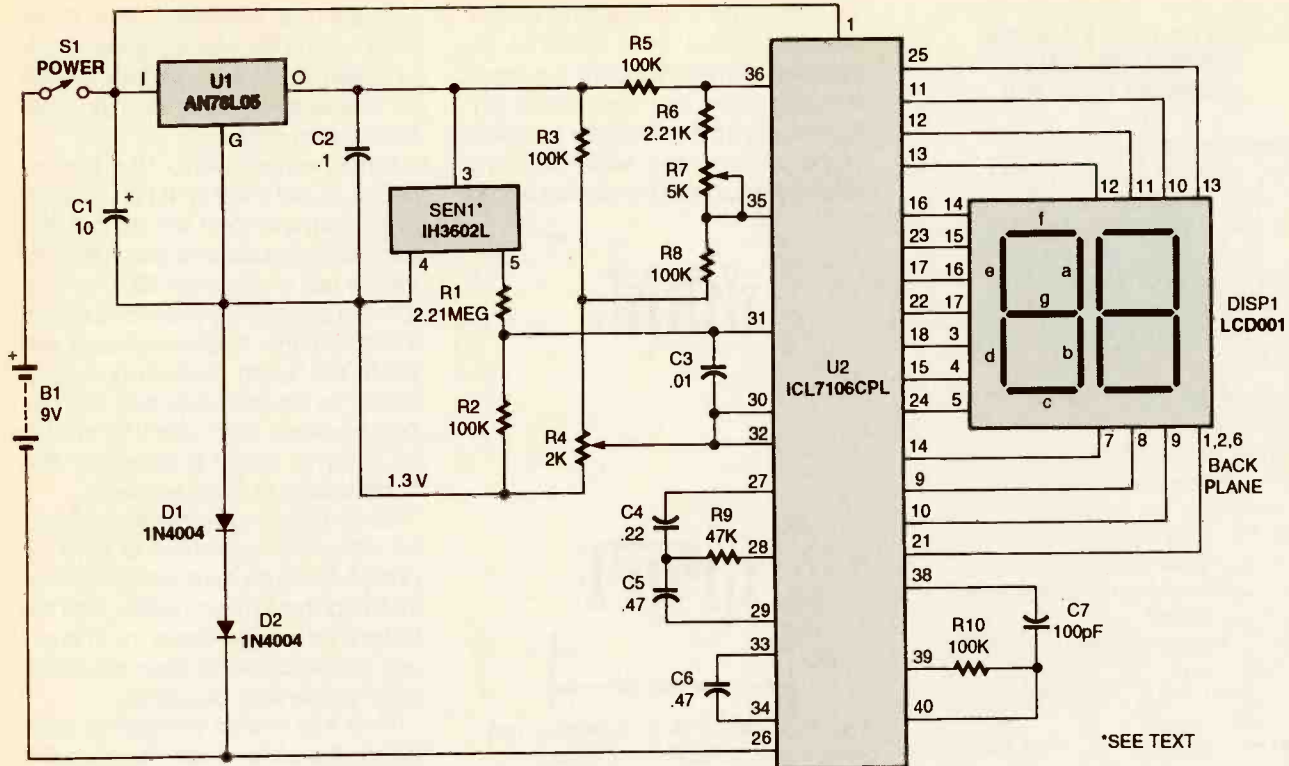

Fig. 1. At the heart of the Digital Relative Humidity Gauge is the Hy-Cal IH3602L SENS1 (a 6-pin CMOS device with active 3-terminals).
**How it Works.** Figure 1 shows a schematic diagram of the Digital Relative-Humidity Gauge. The heart of the humidity-measurement system is SENS1 (the Hy-Cal IH3602L, an 6-pin CMOS device with only 3-active terminals), whose DC output voltage varies linearly with RH levels from 0 to 100%.